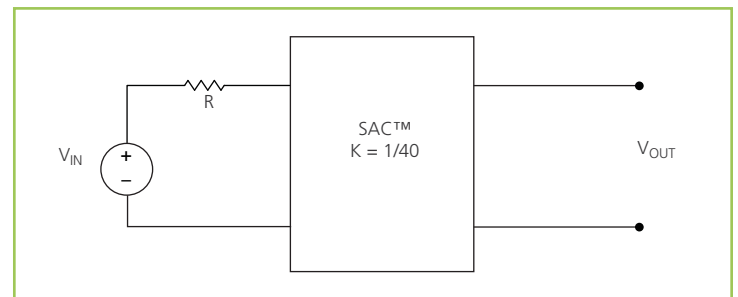

Figure 18 – K = 1/40 Sine Amplitude Converter with series input resistor
The use of DC voltage transformation provides additional interesting attributes. Assuming that $R_{OUT} = 0 \Omega$ and $I_Q = 0 A$, Eq. (3) now becomes Eq. (1) and is essentially load independent, resistor R is now placed in series with V_{IN} as shown in Figure 18.
Assuming that $R = 1 \Omega$, the effective R as seen from the secondary side is $0.63 \text{ m}\Omega$, with $K = 1/40$ as shown in Figure 18.